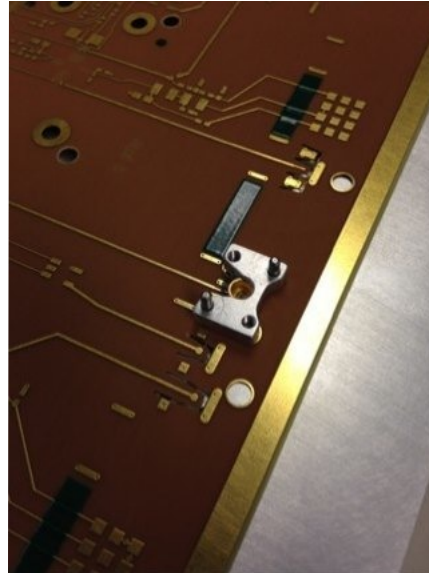

Figure 7
Step 6: Install guide block. Screw to DUT clamp with quantity 2, **2-56**, 100° Philips screws. NOTE: The screw length is determined by a combination of the PCB thickness and DUT clamp thickness. (see figure 7 & 8 for orientation).